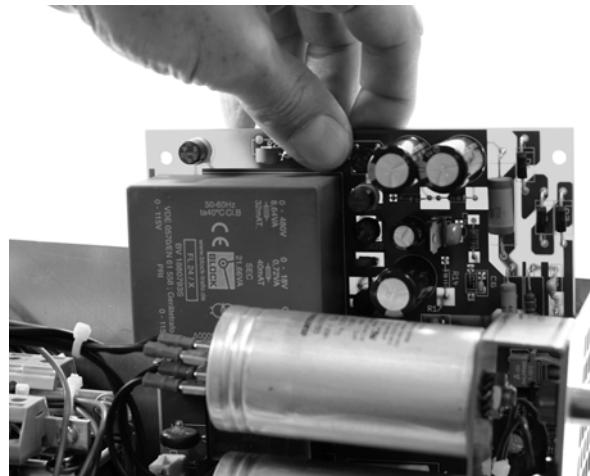

Figure 60: Removing the HV trigger board
4. Carefully lift the HV trigger board out of the thyatron supply unit (see Figure 60).